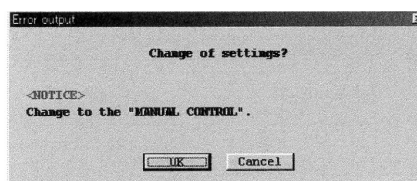

Fig.51
- ⑤ After filling in all the fields required, click on "OK" button. A message box as shown in Fig. 51 then appears.